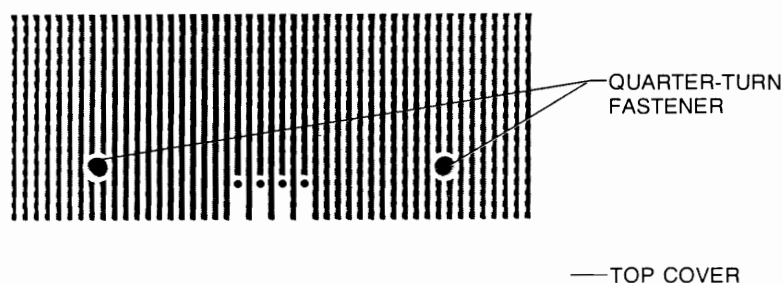

Figure 7-1. 45500A or 45500B Top View
1. Using a small Phillips-head screwdriver, loosen the two quarter-turn fasteners securing top cover to mainframe (see figure 7-1). Do not overtighten the fasteners.